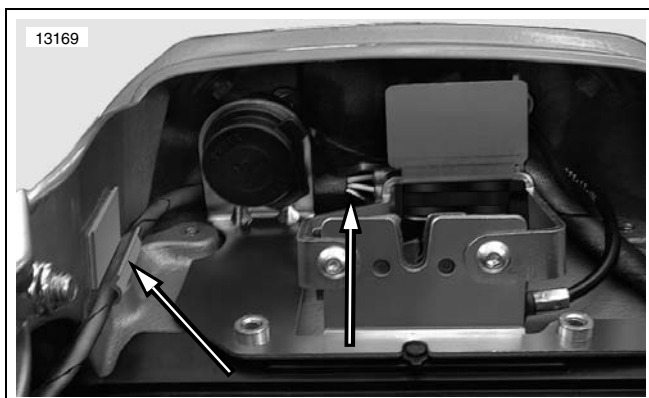

Figure 4. Correct Routing for the Harness Extension Cord with Bank Angle Sensor Mounted Correctly
3. See Figure 4. Route the harness extension cord under the ECM and along the right tail section to the tail loop.
6. See Figure 4. Install the BAS mounting bracket to seat latch bracket using the original seat latch fasteners. Tighten the fasteners to 60-96 in-lbs (6.7-11 Nm).